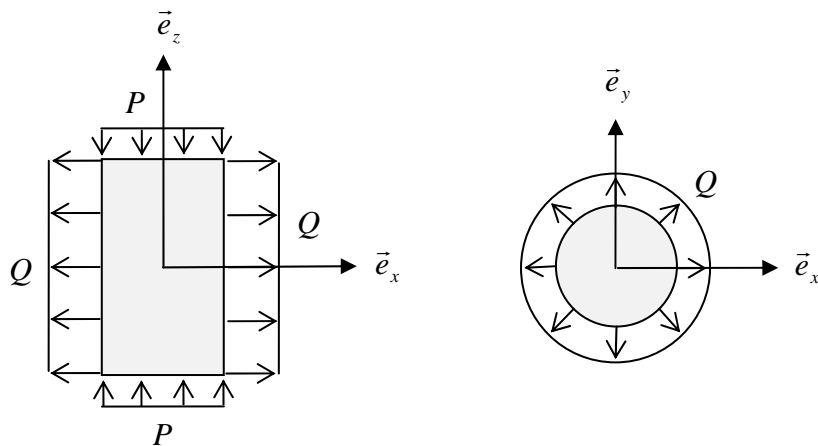

Figure. 2. A cylinder under external pressure
2. (10 pt.) A cylinder is subjected to the uniform normal pressures  $P$  and  $Q$  as shown in Fig. 2. The self-weight is neglected. Considering two different ratios between those pressures ( $P/Q$ ), two experiments have been performed to find the critical loads ( $Q_{crit}$ ) at which the used material fails and the results are given.